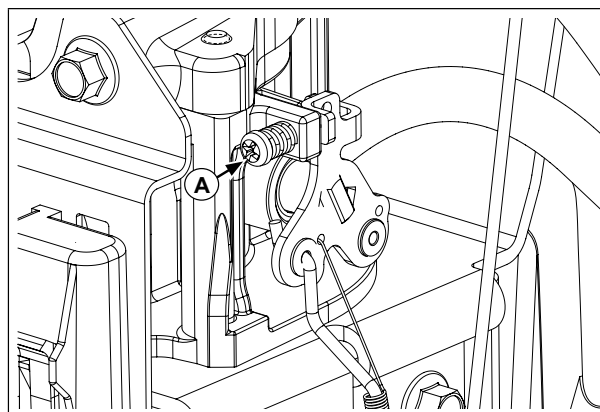

Figure 4. Reset Idle Speed.
7. Set the idle speed to 1500 RPM by adjusting the idle speed screw (A) on the throttle body. See Figure 4.